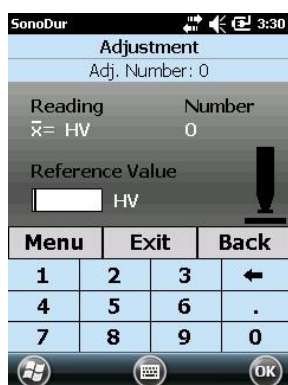

Figure 7.43
- b.) "NO" (Figure 7.38): The determined average value is not used and therefore, (3-5) measurement values must now be recorded within the adjustment program (Figure 7.43). Only the average value will be displayed. Subsequently, the nominal value can be entered (Figure 7.44) and reconfirmed.